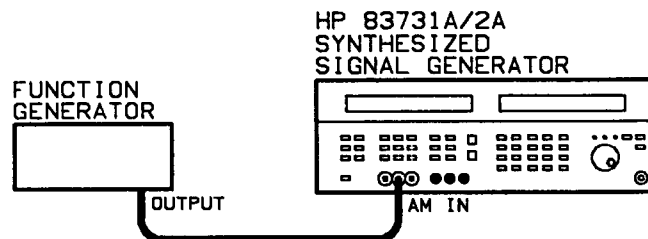

Figure 3-2. Log AM Equipment Setup
1. Connect the equipment as shown in Figure 3-2:
To program the Synthesizer to generate the power sweep explained above, connect the equipment as shown in Figure 3-2. Set the function generator to generate the sawtooth waveform shown in Figure 3-3, and then run the following program.